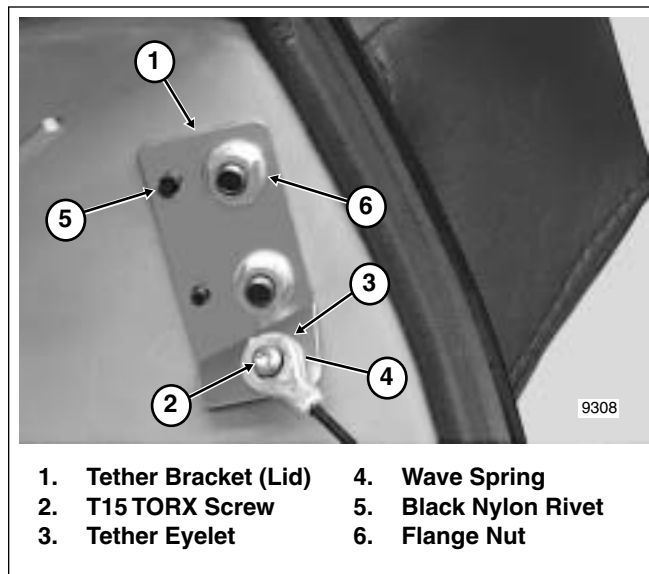

Figure 2-154. Tour-Pak Tether Bracket Assembly
1. Remove T15 TORX screw from threaded boss on tether bracket. See Figure 2-154.
4. Install screw into threaded boss and tighten to 20-25 **in-lbs** (2.3-2.8 Nm). See Figure 2-154.
2. From inside Tour-Pak lid, center a 3/32 inch punch on pin at center of black nylon rivet. Using a small hammer, gently tap pin out of rivet. At outside of Tour-Pak, pull rivet from holes in tether bracket, Tour-Pak lid and passenger backrest bracket. Repeat step to remove second nylon rivet. See Figure 2-154.
1. From inside Tour-Pak lid, install tether bracket on studs of passenger backrest bracket and start flange nuts. See Figure 2-154.